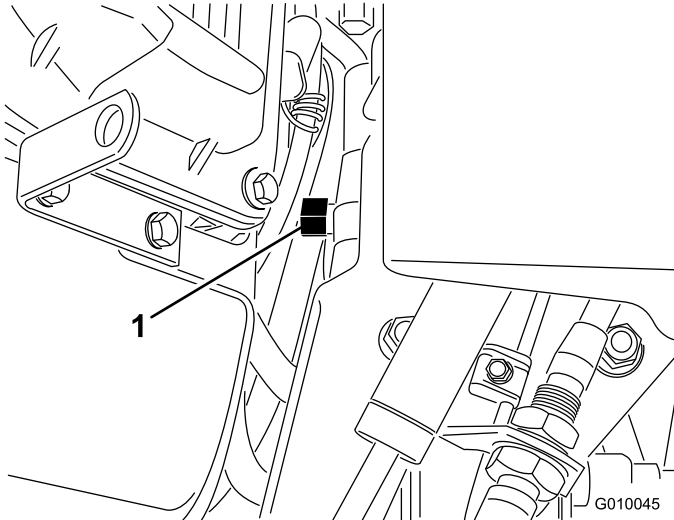

Figure 30
2. Using a 5/8 inch wrench, rotate the by-pass valve counterclockwise 1 turn. This allows the hydraulic fluid to by-pass the pump enabling the wheels to turn (Figure 30).
4. To operate the aerator again, rotate the by-pass valve clockwise 1 turn (Figure 30).